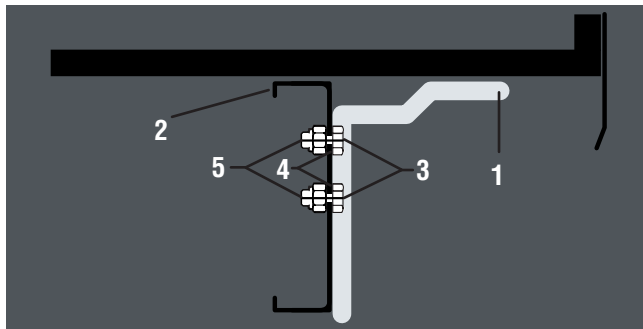

Fig 5 Attaching the jack to the jack brackets
- 5 Position the jack mounting bracket (Fig 5/ item 1) with the long side on the chassis member (Fig 5/item 2) lining up the holes in the bracket, with those in the chassis member, positioning the short side of the bracket against the floor of the caravan.
- 6 Fit M13 washers (Fig 5/item 4) onto setscrews.
- 7 Insert setscrews M12x25 (Fig 5/item 3) through both holes with bolt heads on outside of chassis member.
- 8 Fit the M12 self-locking nuts (Fig 5/item 5) and torque up to 86 Nm.